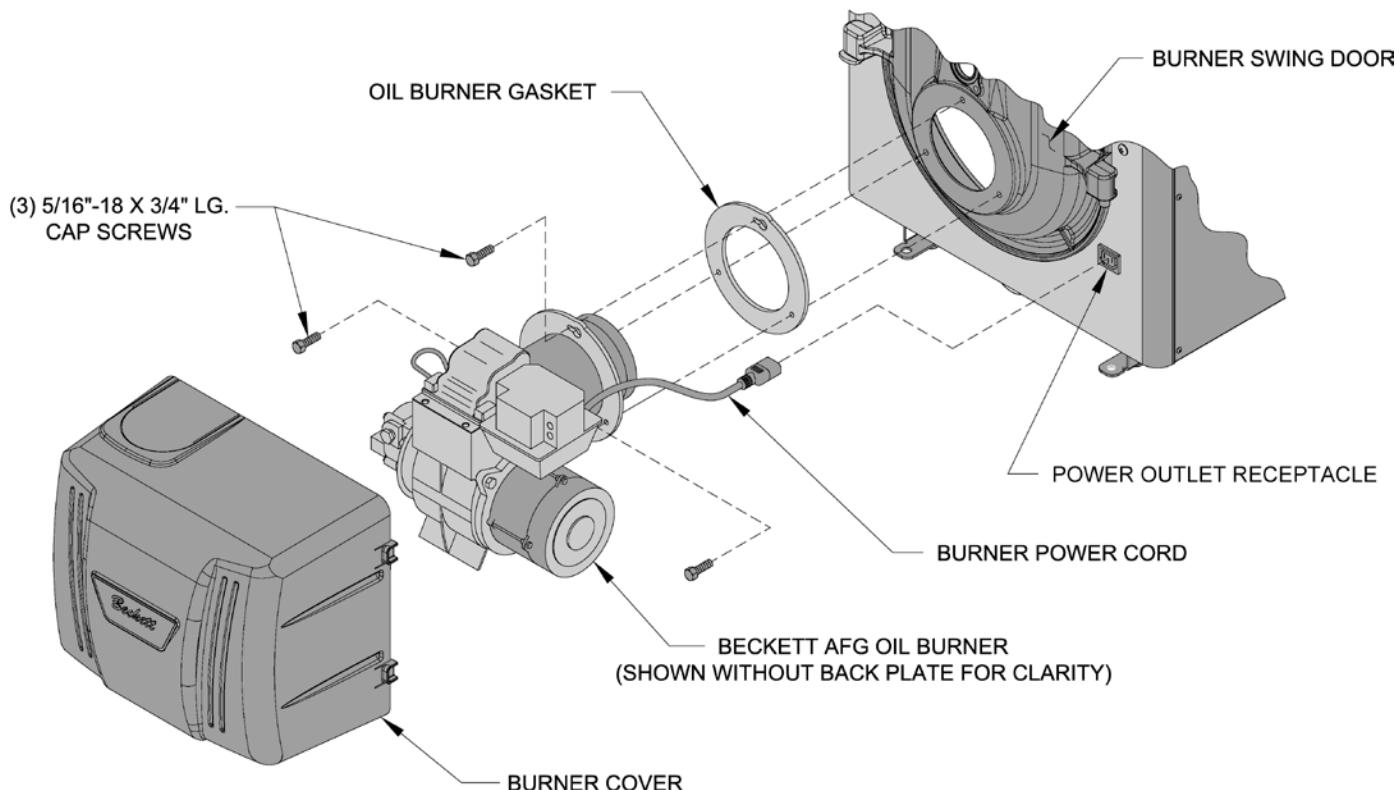

Figure 9: Oil Burner Installation (Beckett Burner Shown)
7. Install oil burner. (See Figure 9)